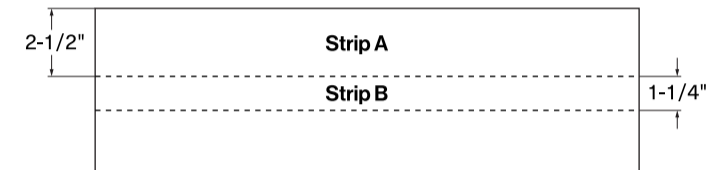

Fig 7a - Offcut wood piece for fence
7.1 Using the off-cut piece left over from Step 1, cut a 2-1/2" (64mm) strip (Strip A), and a 1-1/4" (32mm) strip (Strip B) using your table saw [Fig 7a].